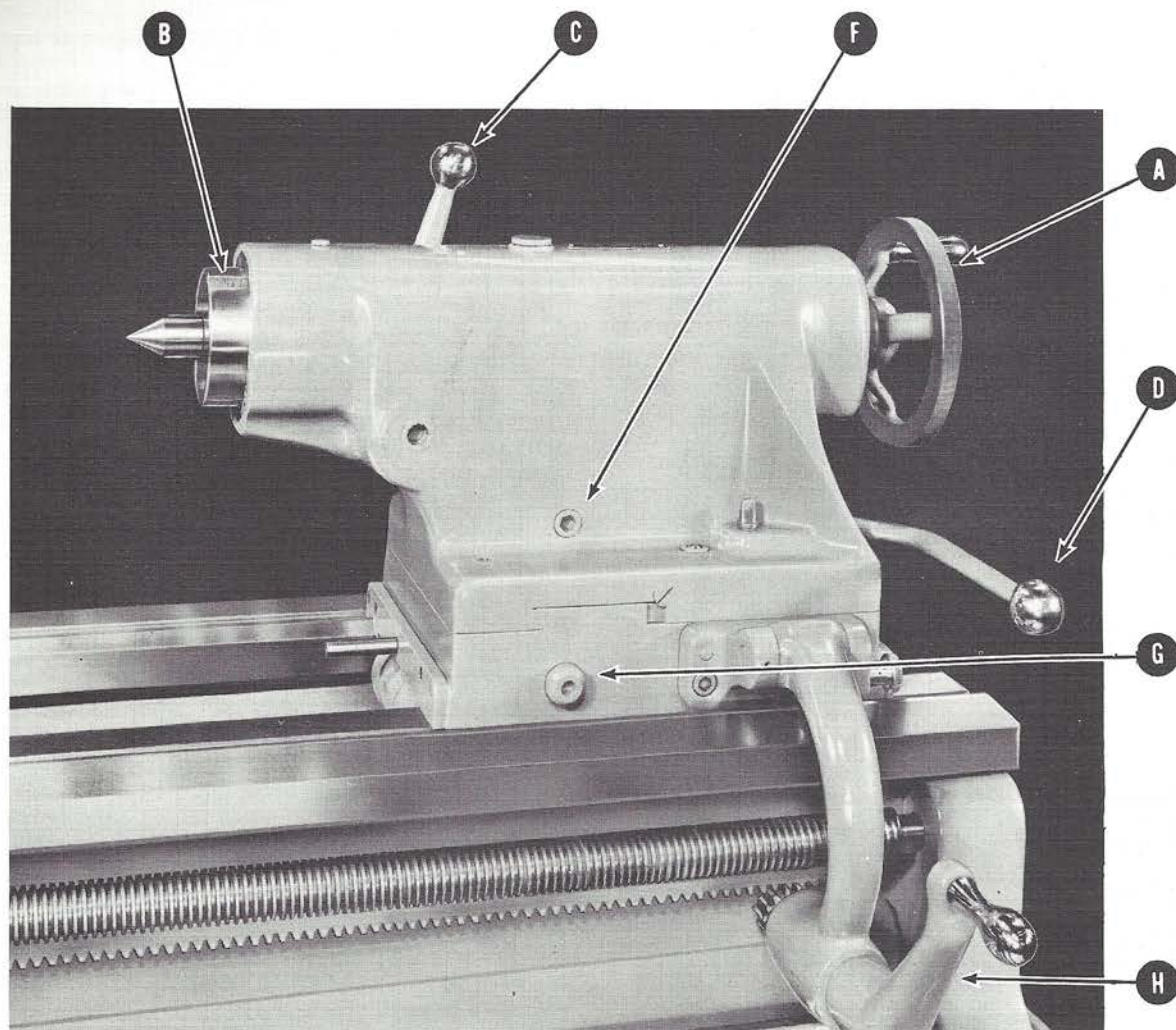

FIGURE 8 QUICK CLAMPING TAILSTOCK - 612 LATHES
Plunger (L) can be manually depressed to engage in socket (G), Fig. 8, to transport the tailstock by carriage motion.
Tailstock handwheel (A), Figure 8, is used to traverse or feed spindle (B) in or out. The dead center spindle shown is supplied as standard. In the optionally available spindle of the anti-friction type, a tang lock makes drilling possible. To remove the center or drill, crank the spindle back into the tailstock until it is automatically ejected.